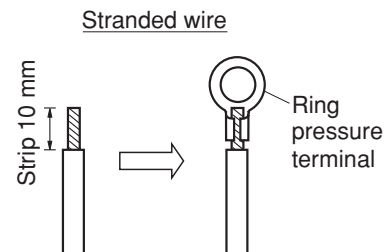
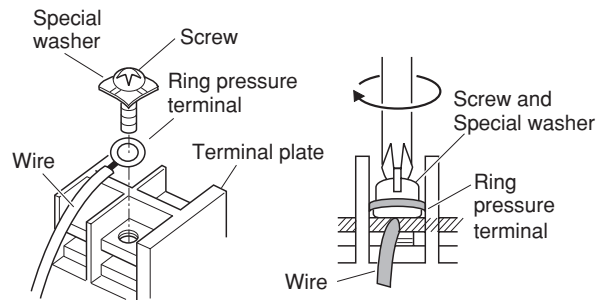

Fig. 3-5
Fig. 3-6
- (1) Cut the wire end with cutting pliers, then strip the insulation to expose the stranded wiring about 10 mm and tightly twist the wire ends. (Fig. 3-5)
- (2) Using a Phillips head screwdriver, remove the terminal screw(s) on the terminal plate.
- (3) Using a ring connector fastener or pliers, securely clamp each stripped wire end with a ring pressure terminal.
- (4) Place the ring pressure terminal, and replace and tighten the removed terminal screw using a screwdriver. (Fig. 3-6)